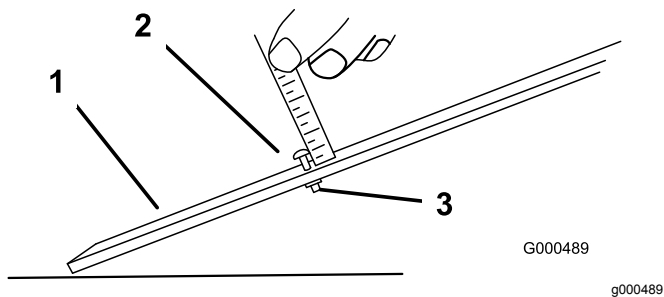

Figure 55
3. Loosen the nut on the gauge bar (Figure 55) and set the adjusting screw to the desired height-of-cut. The distance between the bottom of the screw head and the face of the bar is the height of cut.